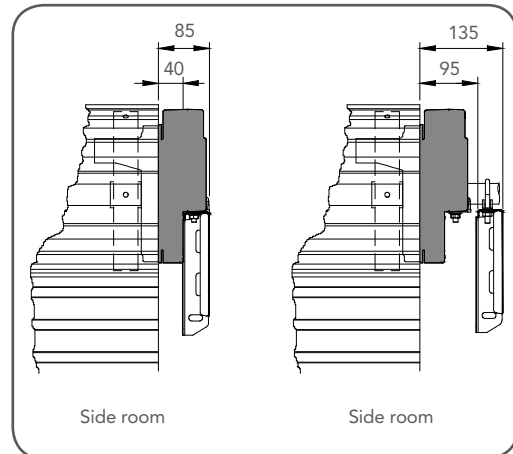

fig 01
**Fig. 01** shows the minimum and recommended side room that is required to mount the opener. The distance between the edge of the door curtain and the inside of the bracket must be at least 40mm. However, for easier access it is recommended that at least 95mm is allowed.